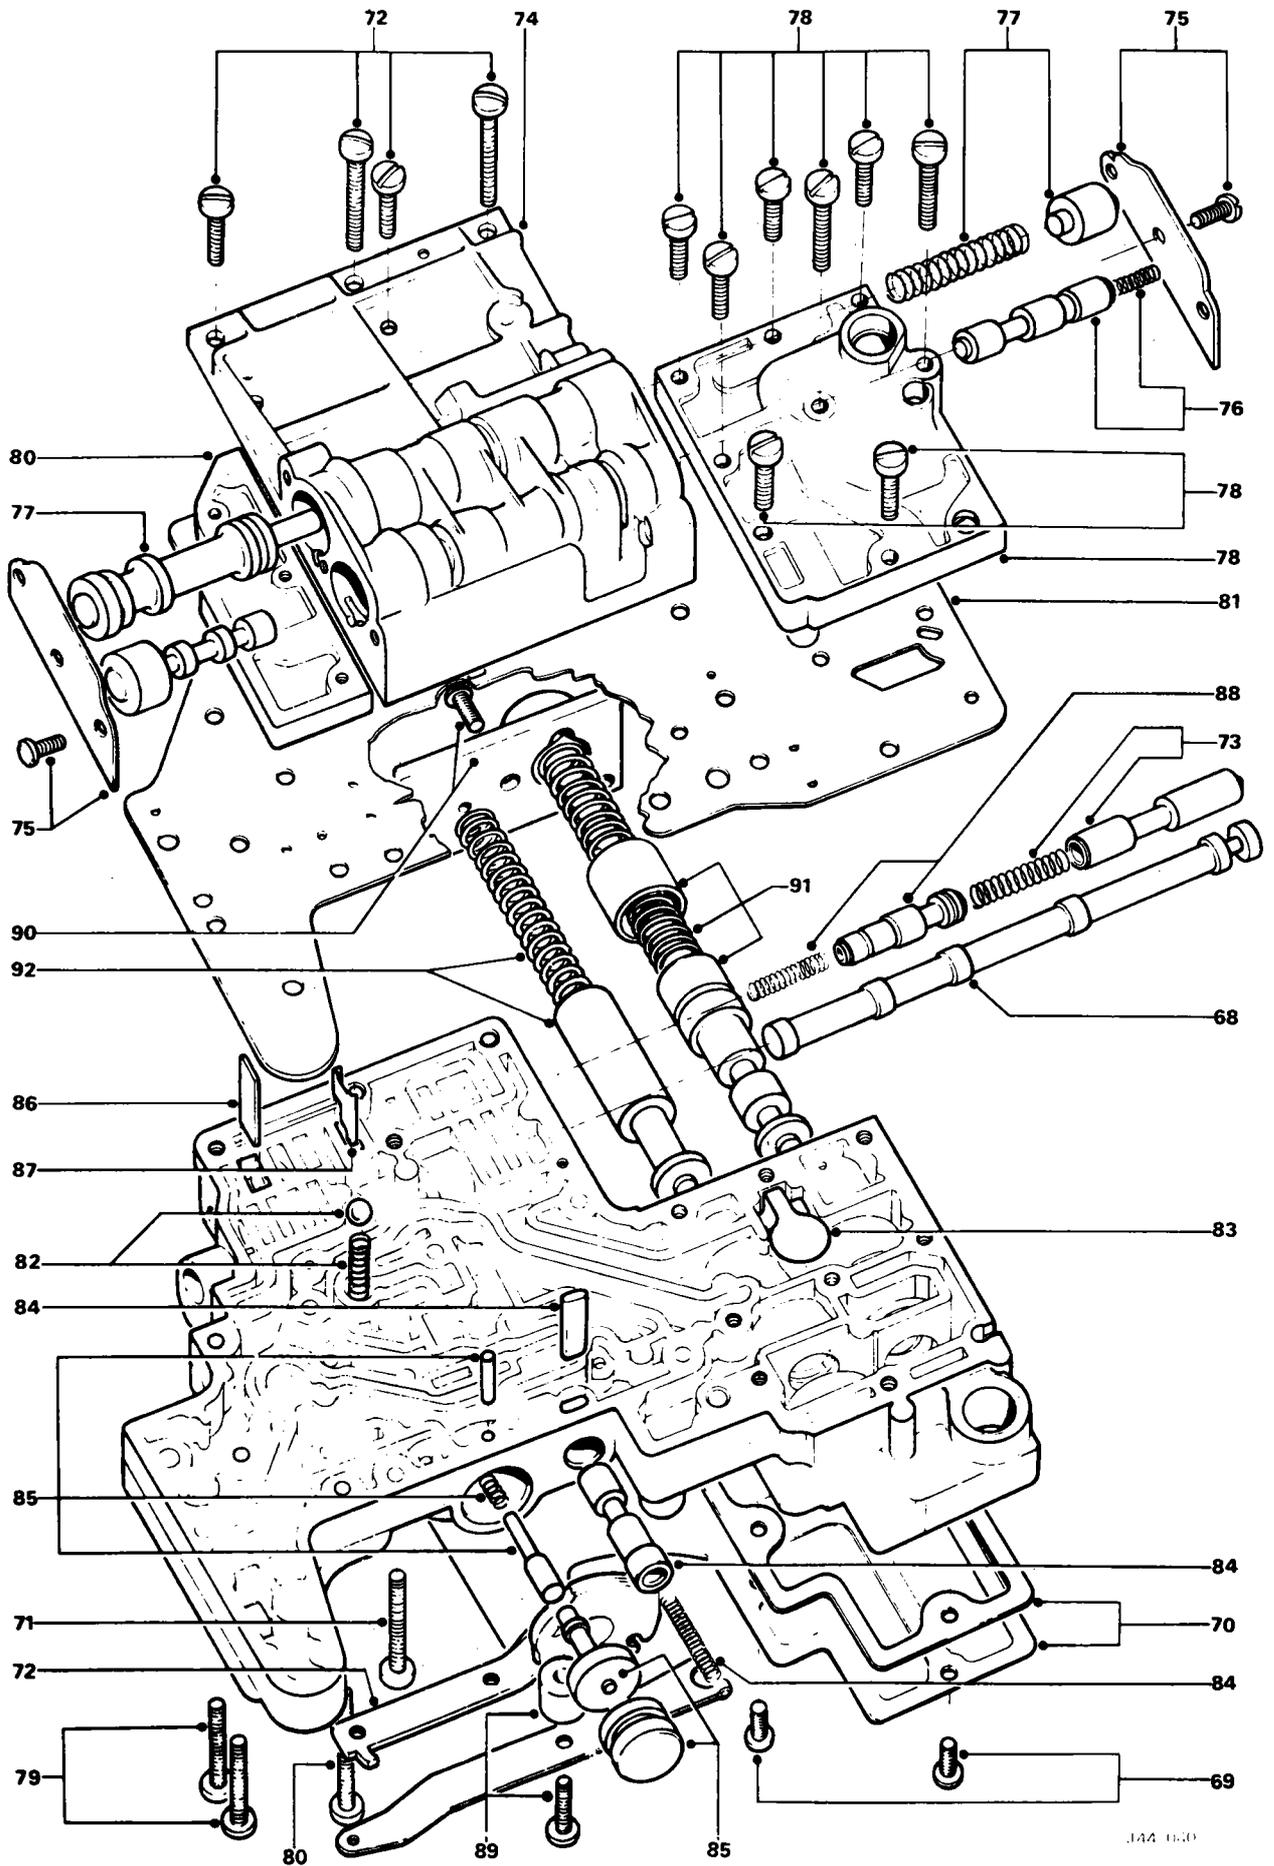

Fig. 39
- 68. Withdraw the manual valve (Fig. 39).
- 69. Remove the screws securing the suction tube assembly to the lower valve body (Fig. 39).
- 70. Lift off the tube assembly; remove and discard the gasket (Fig. 39).
- 71. Remove the six upper valve body securing screws from the lower valve body (Fig. 39).
- 72. Invert the valve body and remove the four screws securing the upper valve body and cam (Fig. 39) mounting arm; remove the mounting arm (Fig. 39).
- 73. Extract the down-shift valve and spring (Fig. 39).
- 74. Lift off the upper valve body (Fig. 39).
- 75. Remove the screws securing both end plates to the upper valve body; carefully remove the end plates (Fig. 39).
- 76. Extract the spring, 1-2 shift valve and plunger (Fig. 39).
- 77. Extract the 2-3 shift valve, spring and plunger (Fig. 39).
- 78. Remove the eight screws securing the collector plate to the lower valve body; lift off the collector plate (Fig. 39).
- 79. Slacken, but do not remove the four screws securing the governor line plate (Fig. 39).
- 80. Hold the separator plate in contact with the valve body, remove the governor line plate securing screws and lift off the governor line plate (Fig. 39).
81. Note the fitted position of the ball valve and carefully slide the separator plate off the valve body (Fig. 39).
- 82. Remove the ball valve; extract the spring (Fig. 39).
- 83. Note the fitted position of the check valve (if fitted), remove the valve (Fig. 39).
- 84. Withdraw the retainer, extract the spring and servo orifice control valve (Fig. 39).
- 85. Withdraw the retaining pin, extract the plug, modulator valve and spring (Fig. 39).
- 86. Withdraw the throttle valve spring retainer (Fig. 39).
- 87. Withdraw the throttle valve retainer (Fig. 39).
- 88. Extract the spring and throttle valve (Fig. 39).
- 89. Remove the screw securing the detent spring and roller assembly, detach the assembly; collect the spacer (Fig. 39).
- 90. Remove the screws securing the regulator valve retaining plate; remove the plate slowly until the spring loading is no longer felt (Fig. 39).
- 91. Extract the spring, sleeve and primary regulator valve (Fig. 39).
- 92. Extract the spring and secondary regulator valve (Fig. 39).